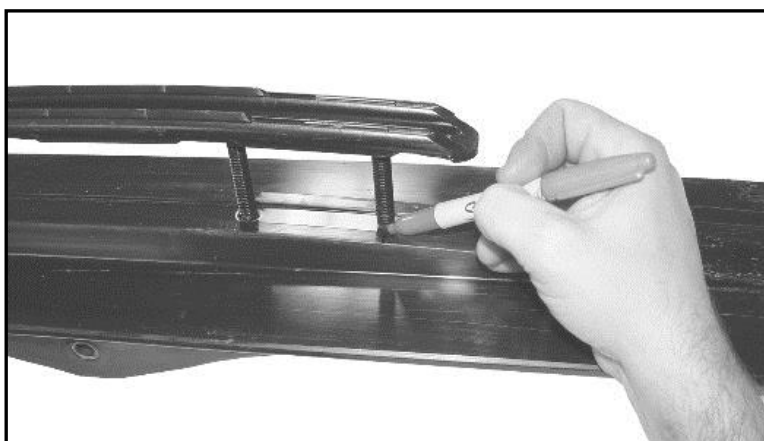
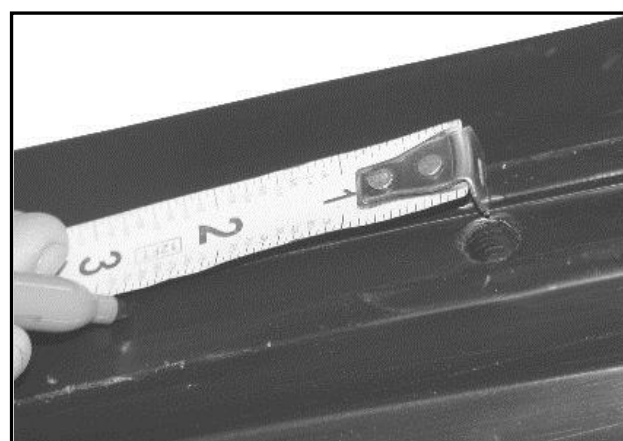

Figure 2
Figure 3
- Insert the front end of the runner into the runner opening or indentation provided in the ski. (figure 1) Swing the rear end of the runner to align the runner bolts with the bolt holes in the ski. Then insert the bolts through the ski. Some pressure may be required. (figure 2)
- Hand tighten the nuts on all bolts. (figure 3) Using a ratchet wrench, tighten nuts starting with the center bolt, keeping the degree of threading on all bolts approximately even as the runner tightens to the ski. (figures 4-6)
- 1) Place the 9975 series runner in the 3 bolt holes on the bottom of the ski. The fourth bolt will contact the ski at the point where the additional bolt hole will need to be drilled. (Figure 1) At this point using a marker place a mark on the keel at the center of the fourth bolt. (Figure 2) Or you can measure from the center of the bolt nearest the rear of the ski 2.800" to determine the new bolt hole placement. (Figure 3)